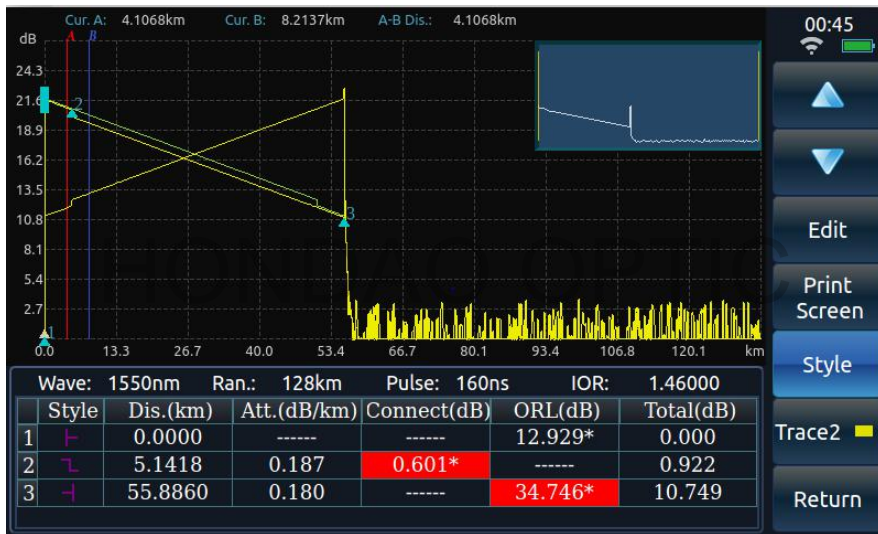
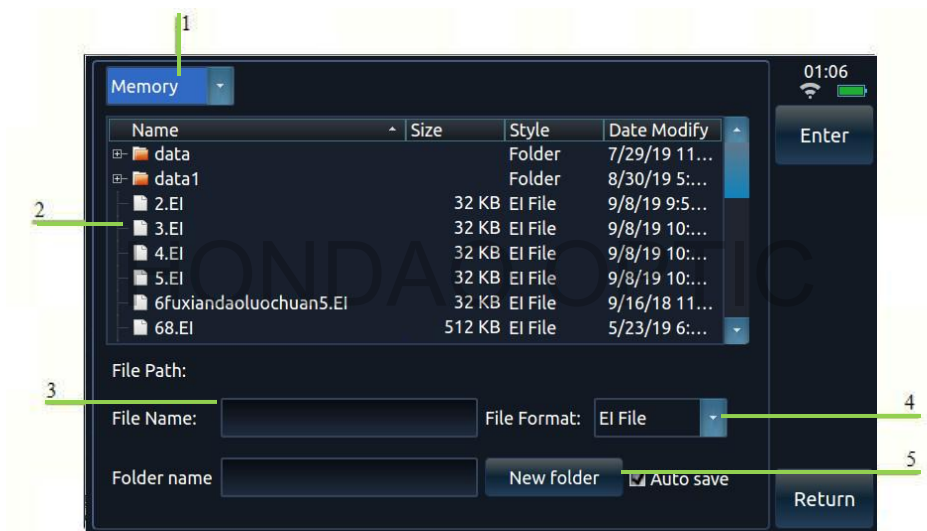

Figure 7-9 Two-way test analysis
Figure 7-14 File saving operation window
- 5) Click the [Analysis] button to get the Two-way analysis results, as shown in Figure 7-9.
Click the [Save] button in the sub-menu bar of file management in Figure 7-9 to enter the file saving operation window, as shown in Figure 7-14.